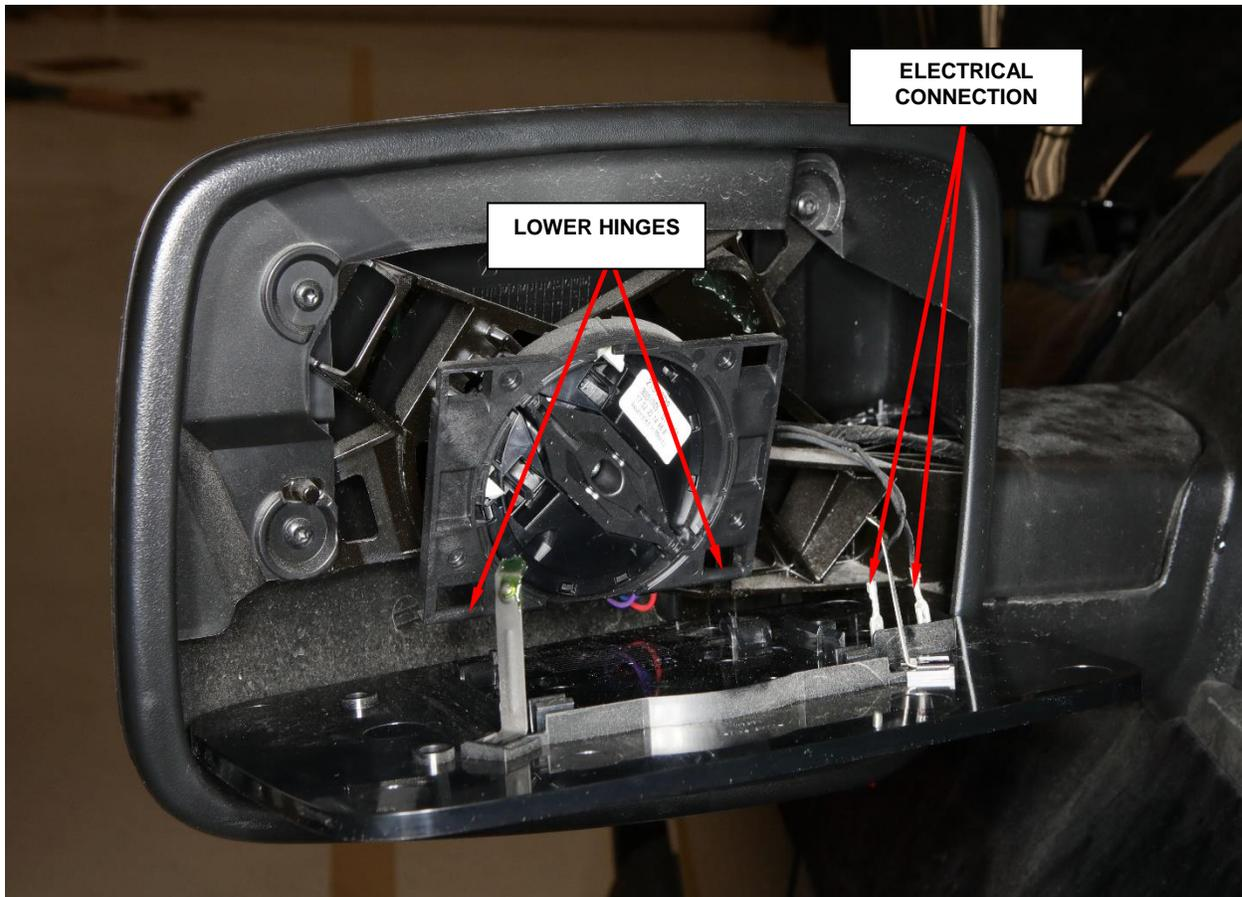

Figure 4 – Electrical Connection
5. Separate the lower hinge type clips from the mirror glass assembly (Figure 4).
6. Disconnect the electrical connectors and **DISCARD** the mirror (Figure 4).
2. Connect the electrical connectors (Figure 4).